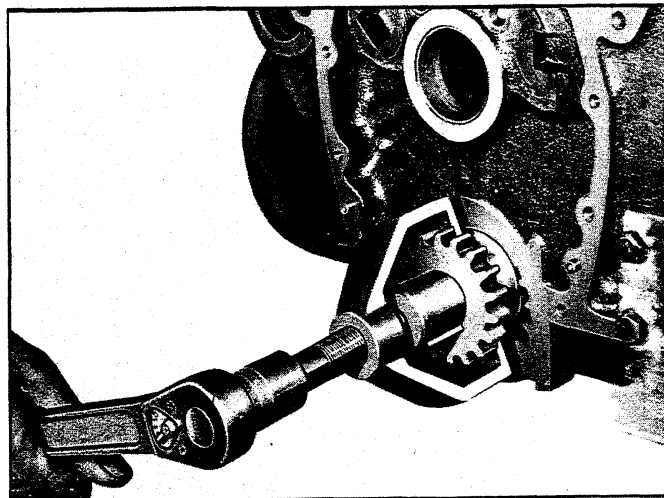
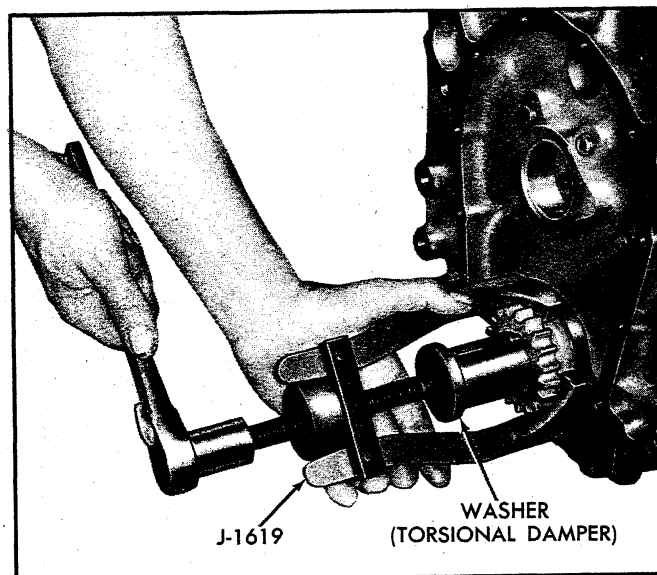
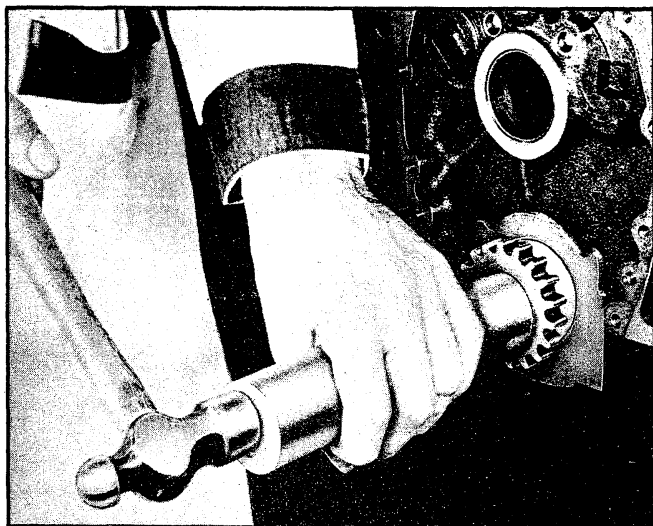
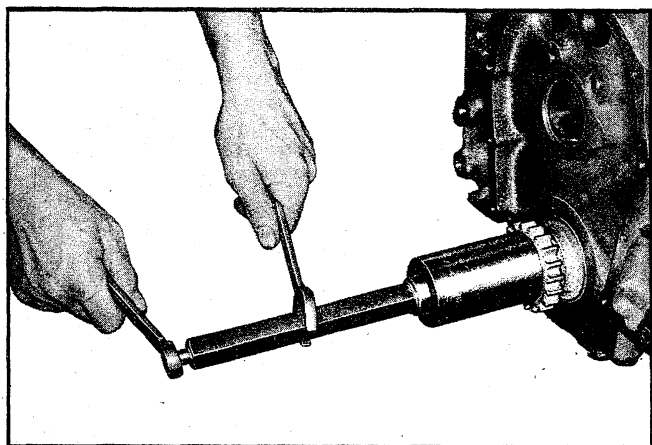

Fig. 21V - Removing Crankshaft Sprocket
Fig. 22V - Removing Crankshaft Sprocket (396 and 427)
Fig. 23V - Installing Crankshaft Sprocket
Fig. 24V - Installing Crankshaft Sprocket
5. If crankshaft sprocket is to be replaced, remove sprocket using Tool J-5825 on 283, 327 and 350 cu. in. engines (fig. 21V) or Tool J-1619 on 396 and 427 cu. in. engines (fig. 22V). Install new sprocket using Tool J-5590 on 283, 327 and 350 cu. in. engines (fig. 23V) or Tool J-21058 on 396 and 427 cu. in. engines (fig. 24V).